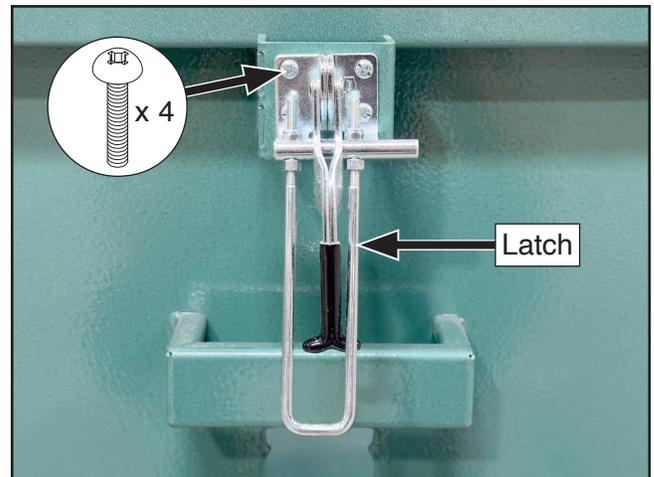

Figure 49. Latch attached to drum assembly
38. Attach (1) latch to front of collection drum with (4) #10-24 x $\frac{3}{8}$ " Phillips head screws (see **Figure 49**).